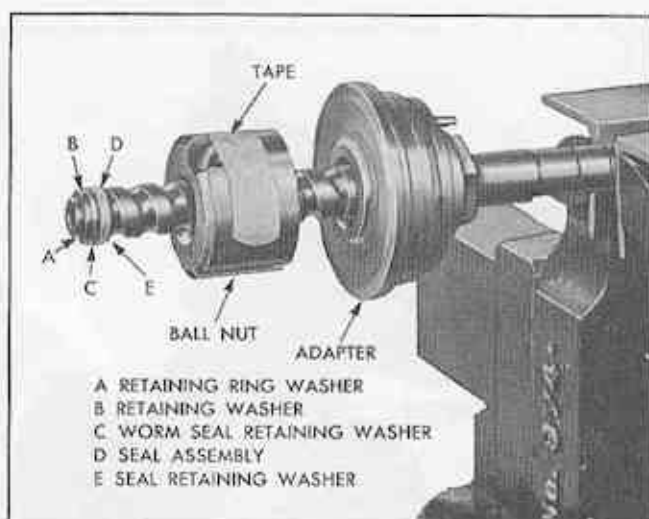

Fig. 76 Worm Shaft, Seal and Washers Installed
6. Install seal retaining washer, seal assembly, worm seal retaining washer, retaining washer, and retaining ring washer (Fig. 76).